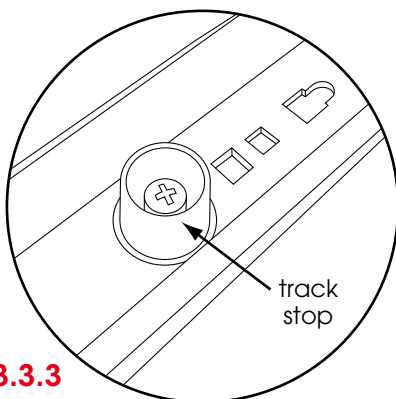

Fig: 3.3.3
- Install the safety stop at the end of the horizontal track as shown in Fig 3.3.3.